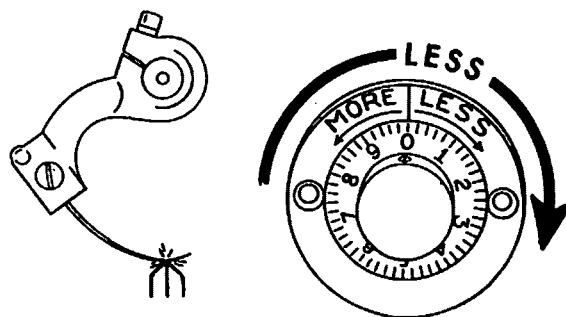

FIG. 3
4. If rib is pressing up against needle (Fig. 3), turn dial toward "**LESS**" until rib just touches needle.